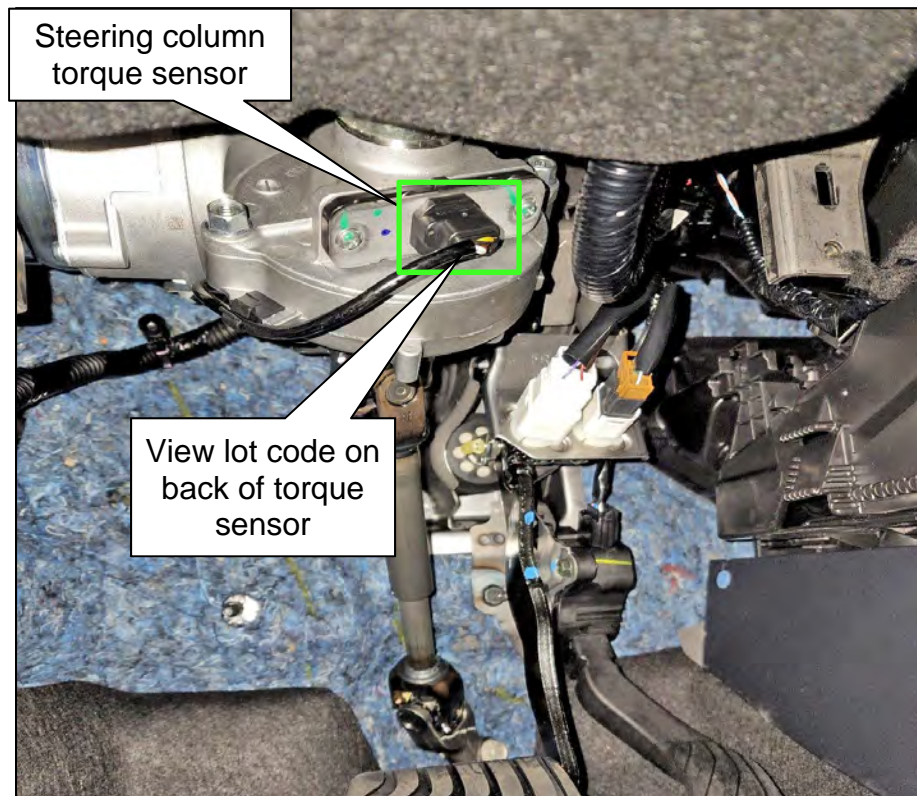

Figure 11
20. Locate the steering column torque sensor (Figure 11).